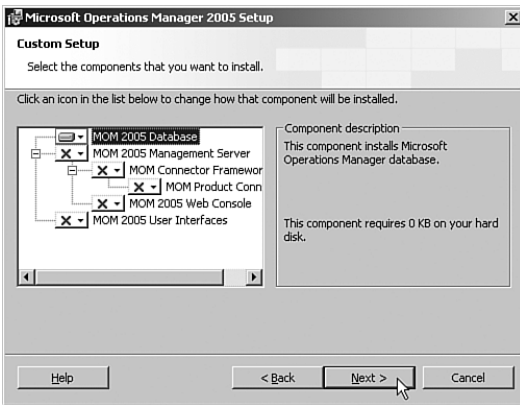

FIGURE 6.12 Custom setup for the MOM 2005 database.
3. Make sure that only the MOM 2005 Database is selected as shown in Figure 6.12 and click Next to continue to the next step.